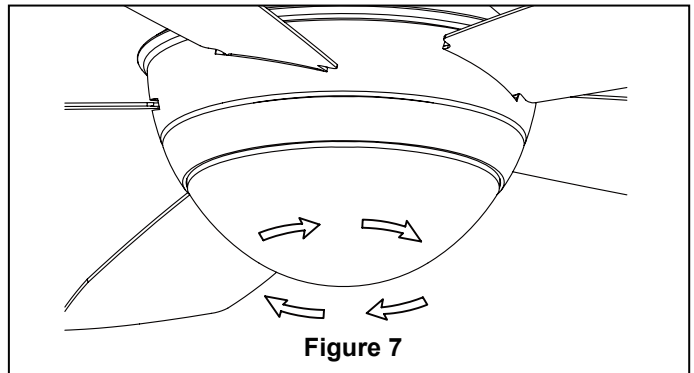

Figure 7
6. Securely attach the Glass/Frame Light Kit Assembly by twisting onto the Adapter plate. Don't overtighten. (Figure 7)